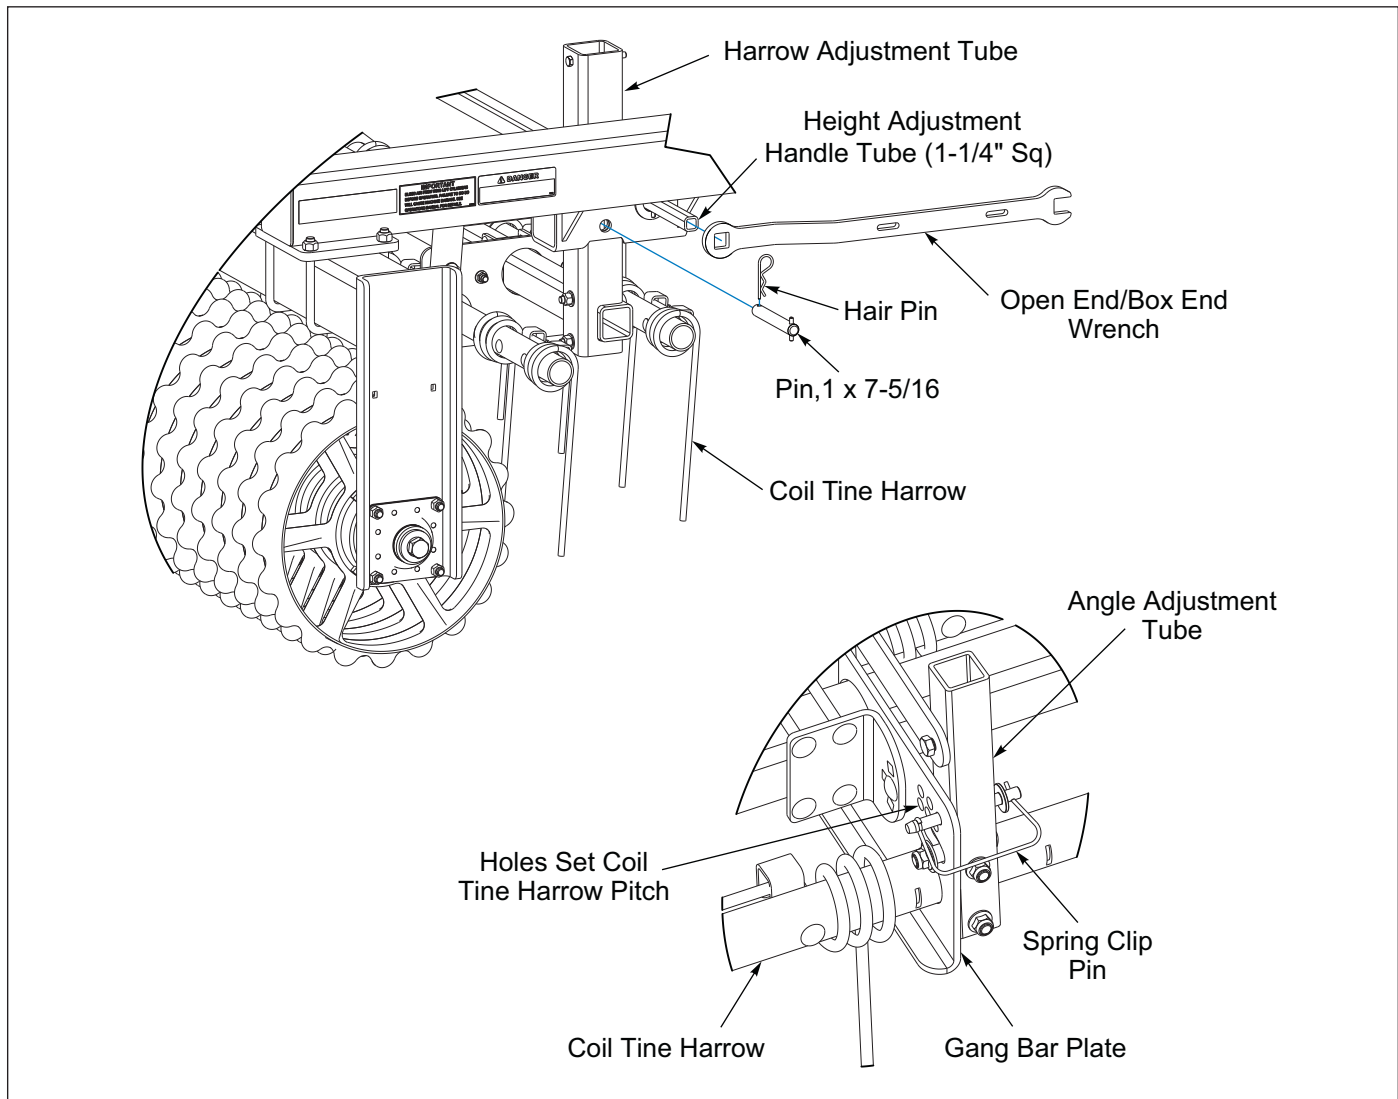

Figure 3-8: Coil Tine Harrow Adjustment
1. Adjust the Harrow Coil Tine pitch at the rear of the implement, by removing the Harrow Adjustment Spring Pins from the Angle Adjustment Tubes and rotating the tube to the desired angle. **See Figure 3-8.**
1. Adjust the Harrow Depth with the Open End/Box End Wrench located on the right side of the frame by the Drawbar. **See Figure 3-8.**